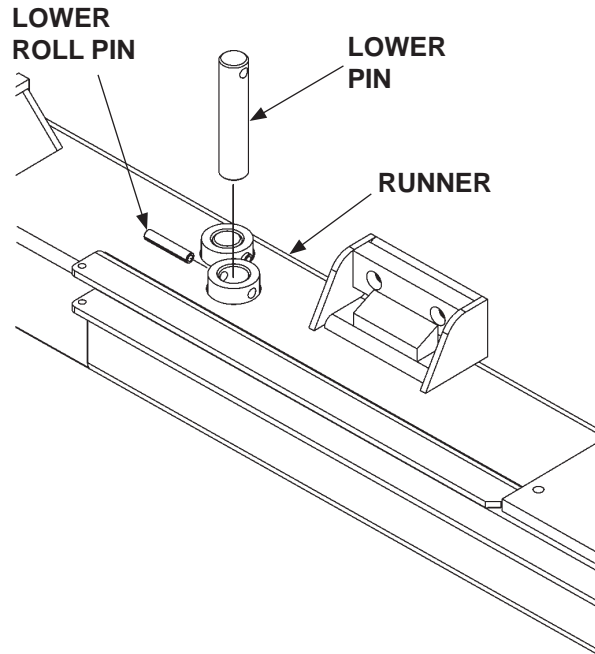

FIG. 30-1
20. Slide cylinder into runner. Re-install lower roll pin and lower pin (FIG. 30-1).
22. Stand the runner and cylinder upright. Twist and walk runner into column (**FIG. 30-1**).